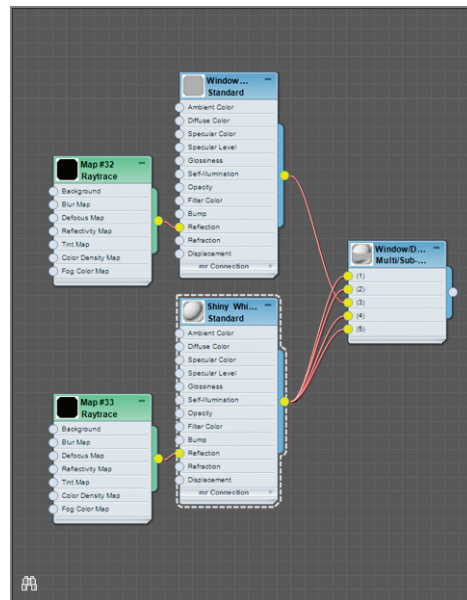

FIGURE 10.23 Drag from the output socket of the Shiny White Plastic material into the input socket of the remaining ID slots of the Multi/Sub-Object material.
17. Drag from the output socket of the Shiny White Plastic material to the input of the Multi/Sub-Object material's IDs that were deleted, as shown in Figure 10.23.